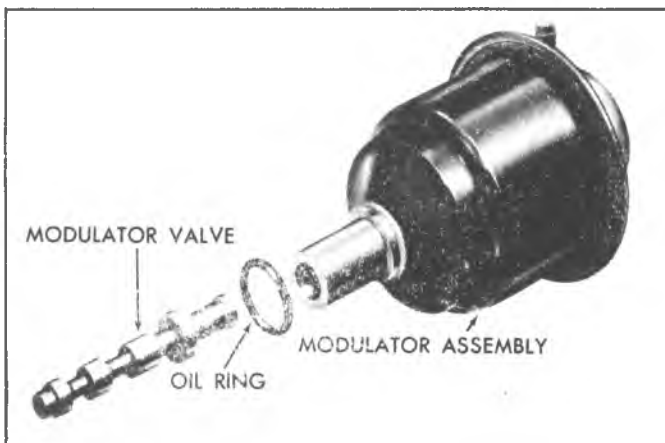

Fig. 7A-134C--Modulator Assembly and Valve
- b. Apply non-hardening sealer to outside of new oil seal, and install oil seal into case extension using tool (J-24057) (see Fig. 7A-171C).